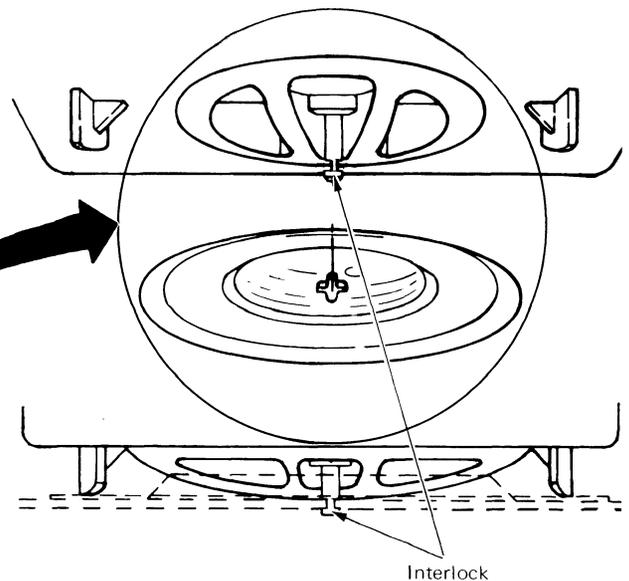

Figure 18 - Large Display Module Interlock
5. Lift the display module up to release the interlock (see Figure 18).